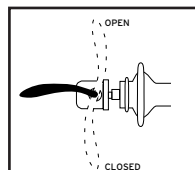

Figure 39- Lever positions
1. Move the quick-release lever to the **OPEN** position (Figure 39) and set the wheel so it firmly touches the inside of the fork ends.